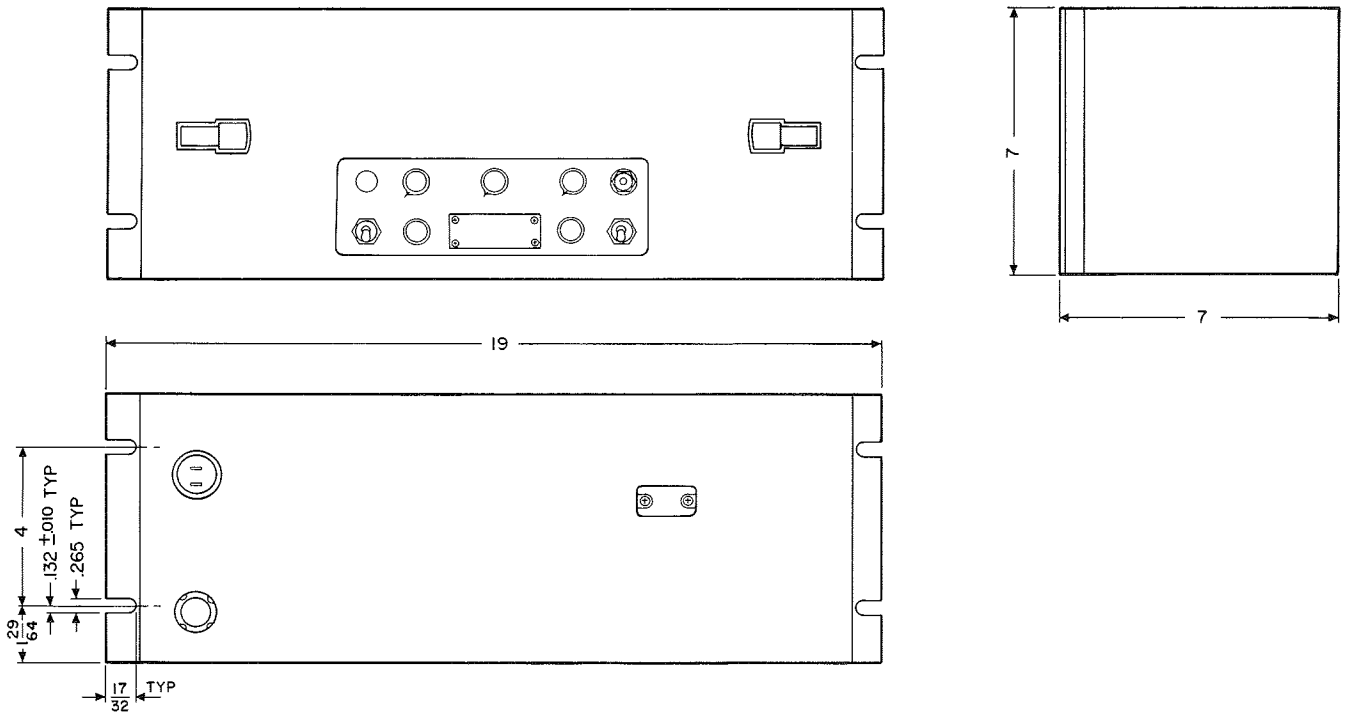

Figure 2-1. Outline and Mounting Dimensions, 51N-7F, Front Panel Flush Mounting
2.2 MOUNTING. (See figure 2-1.)